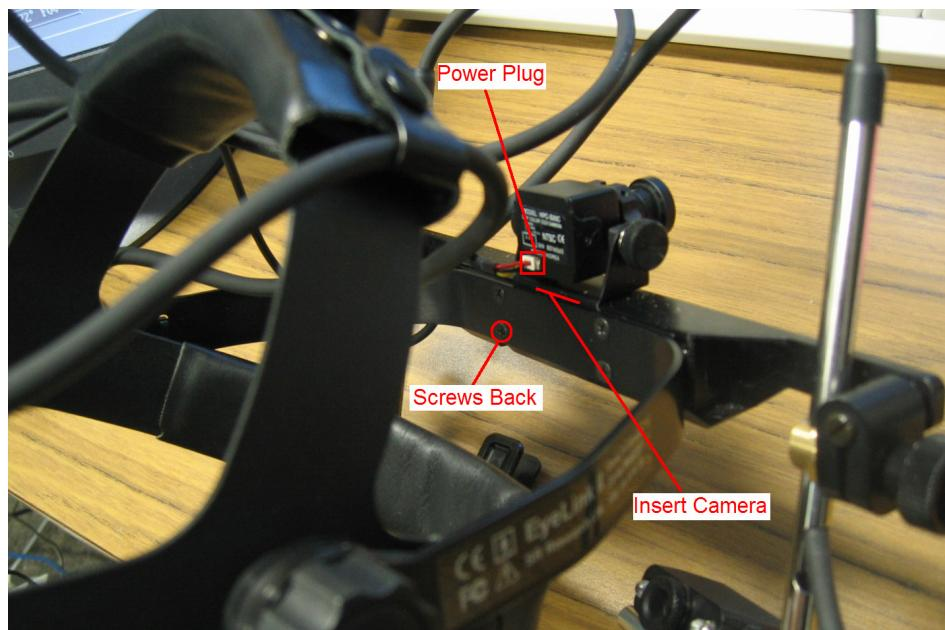

Figure 3-2: Insert Scene Camera between the Head Camera Clamp and the Head Camera Bracket
- Insert the scene camera bracket between the head camera bracket and the head camera clamp (see Figure 3-2).